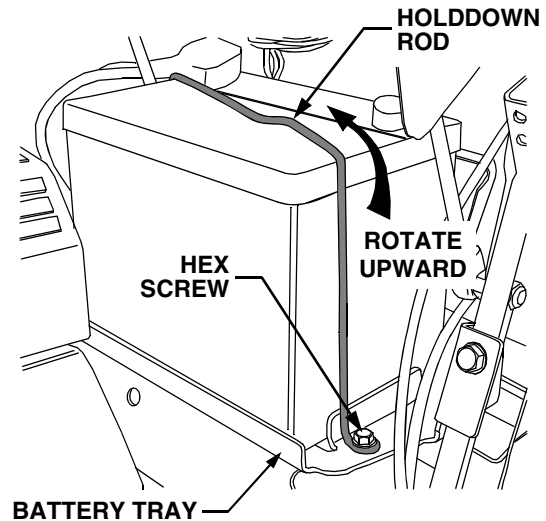

Figure 26
2. Remove the hex screw securing the LH side of the holddown rod to the battery tray (Refer to Figure 26).